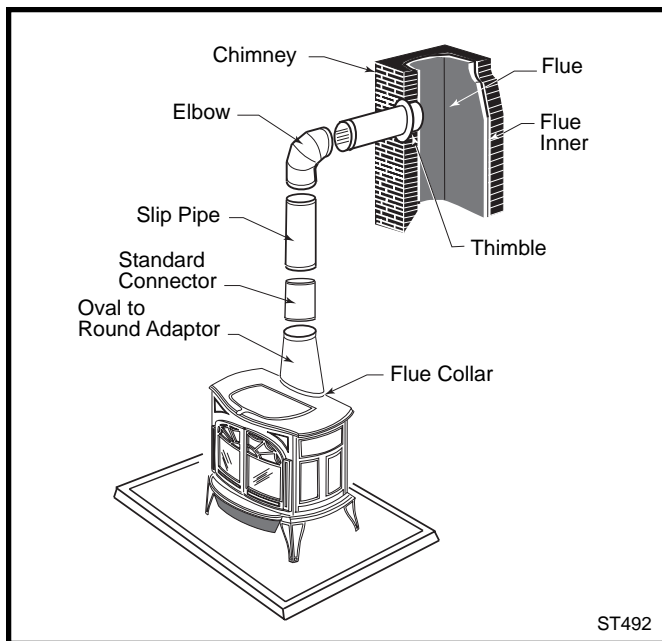

Fig. 5 An exploded view of the chimney connection in a freestanding masonry installation.
- Fasten the chimney connector to the chimney. Instructions for various installations follow. Fig. 5 illustrates the general layout of chimney connector parts.